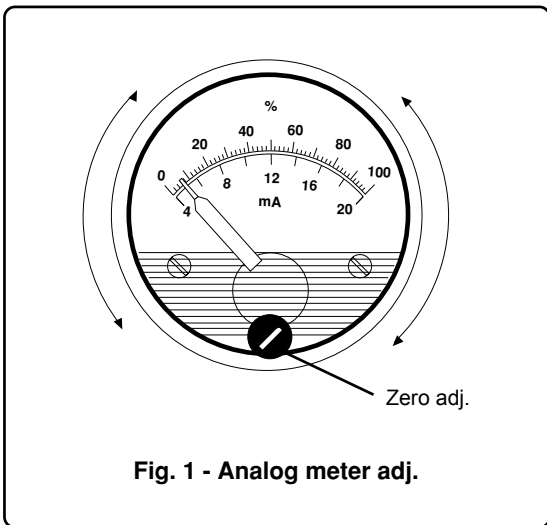

Fig. 1 - Analog meter adj.
The calibration of the analog type meter only involves zeroing. Fig. 1 shows the analog output meter and the location of the zero adjustment.
- with the loop unpowered adjust the zero screw to read exactly the **true zero** mark on the scale (Fig. 1).